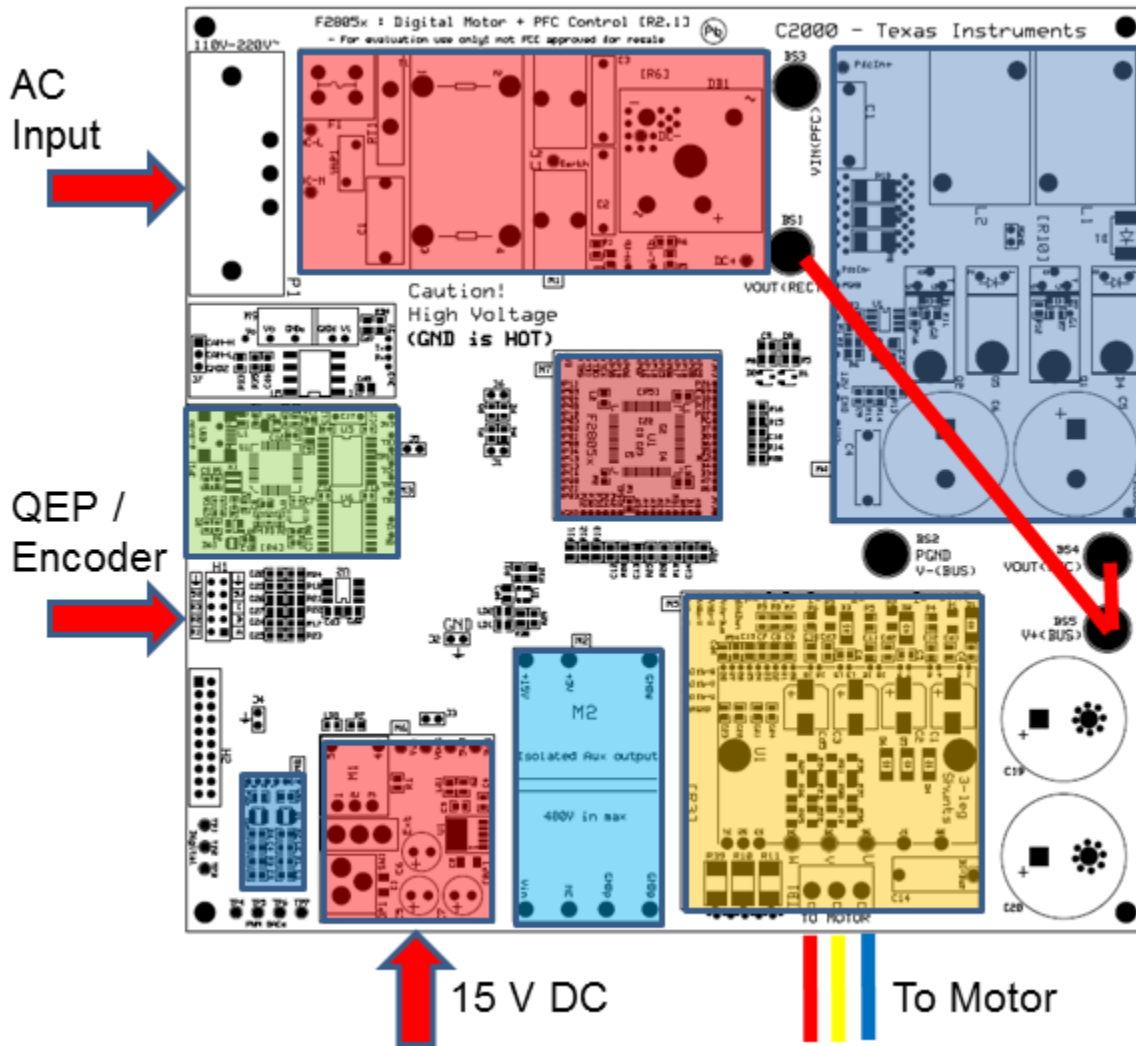

Figure 3. Using an AC Input to Generate DC Bus Voltage for the Inverter, Bypassing PFC
- (b) Connect [Main]-BS5 and [Main]-BS4 as the CPU senses bus voltage information from the PFC output stage where [Main]-BS4 is. (See Figure 3.)